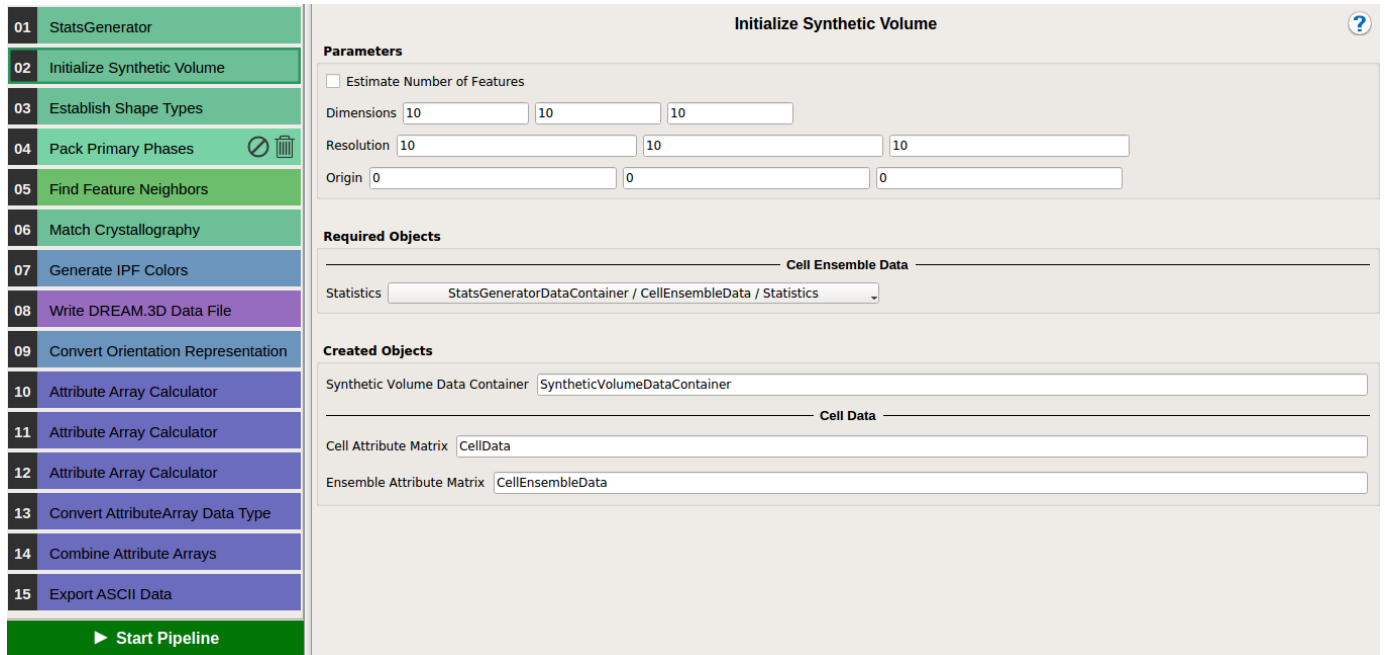

Figure 6: Initialize synthetic volume
5. Copy the **Initialize Synthetic Volume** filter to the pipeline window where the box dimensions can be specified. The box is split into voxels according to the dimensions as follows - if the dimension value in the first textbox is 50, then the box will be sectioned into 50 partitions along direction '1' to produce 50 voxels in that direction. Similarly the second and third textbox refer to the dimensions along directions '2' and '3' respectively. The resolution refers to the length of the box along each direction, so that the larger the resolution, the more grains generated for a given size. By ticking the checkbox next to '**Estimate number of features**' one can check the estimated number of grains that would be generated for the chosen dimensions and resolution. In the present case, we choose a dimension of 10 in each direction with a resolution value of 10(Fig. 6) . Note that the number of features estimated can change on multiple tests because the entire processing is essentially that of sampling based on a probability distribution.